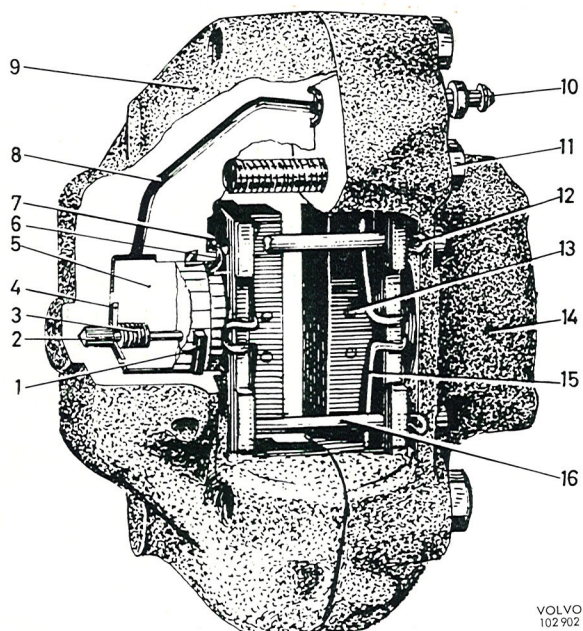

Fig. 5-10. Rear brake caliper
The rear wheel brake caliper is mounted to the rear axle casing with the help of a retainer. It houses the wheel unit cylinders and brake pads. It consists of a housing divided in two halves (9 and 14, Fig. 5-10) bolted together and located on either side of the brake disc. Each half contains a piston and a cylinder linked by means of a channel in the housing.
bends or on rough ground). The A.S.B. device prevents a reduction in the pedal travel (that is, distance from the pedal position at full brake application to the floor plate). The A.S.B. device consists of the following (see Fig. 5-10): A spring (3), a washer (4) which holds the spring securely on the piston, also a pin (2) which